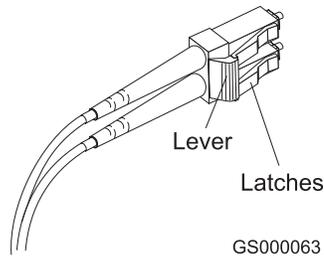
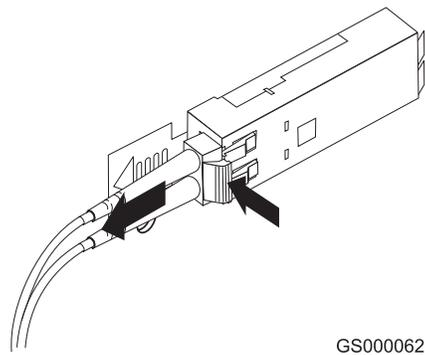

Figure 10. LC-LC Fibre Channel Cable lever and latches
Figure 11. Removing the LC-LC Fibre Channel cable
1. On the end of the LC-LC cable that connects into the SFP module or host bus adapter, press down and hold the lever to release the latches, as shown in Figure 10 on page 9. Carefully pull on the connector to remove the cable from the SFP module, (ensure that the levers are in the released position when you remove the cable) as shown in Figure 11 on page 9. If you use the SFP module with the pull tab, make sure you do not grasp the plastic tab when you remove the cable.